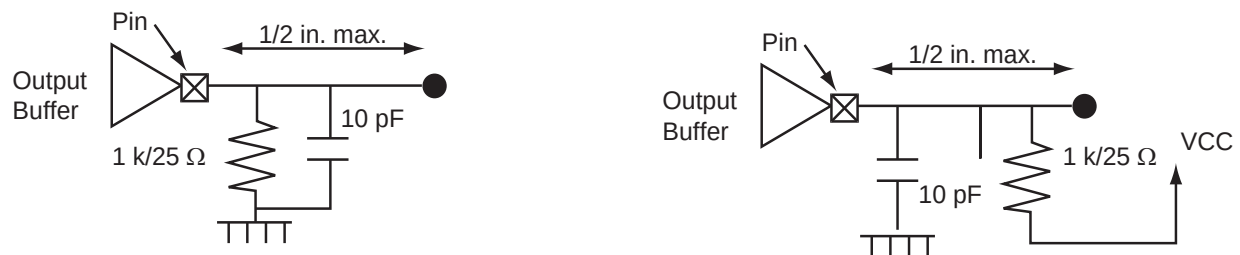

Figure 2-10 • 3.3 V PCI Output Loading
3. This parameter is to be interpreted as the cumulative edge rate across the specified range, rather than the instantaneous rate at any point within the transition range. The specified load is optional (Figure 2-10); i.e., the designer may elect to meet this parameter with an unloaded output per the latest revision of the PCI Local Bus Specification. However, adherence to both maximum and minimum parameters is required (the maximum is no longer simply a guideline). Rise slew rate does not apply to open drain outputs.